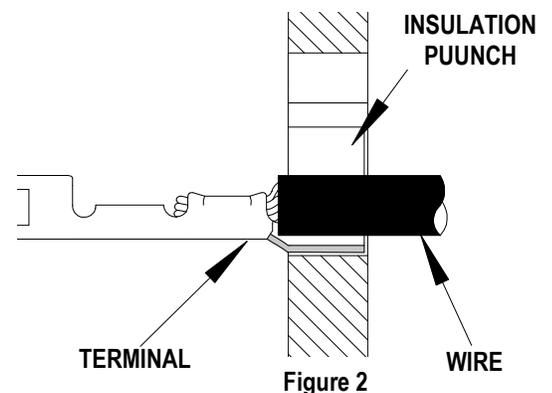

Figure 2
10. Open the tool handles and insert the terminal into the desired insulation section. Evaluate the housing opening before crimping the insulation. See Figure 2.